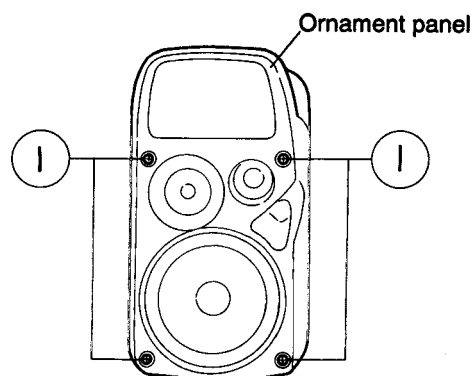

Fig. 5-61
■ **Removing the ornament panel** (See Figs. 5-61 to 5-64.)
3. Remove the four screws ① which retain the ornament panel from the front. (See Fig. 5-61.)